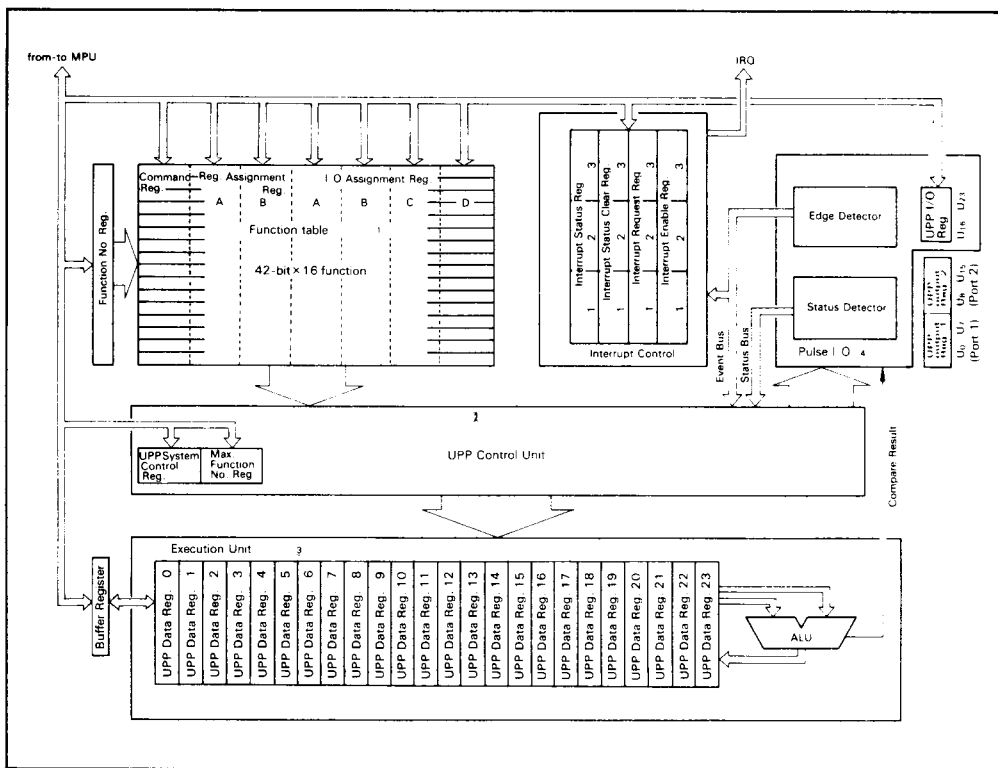

Figure 1. UPC Block Diagram
Figure 1 shows a block diagram of the UPC. The functions stored in the function table ① are sequentially read by the function number register (FNR), which has a counting function. The UPP control unit ② interprets and executes these functions by controlling the execution unit ③ (consisting of UPP data registers and an ALU) and pulse I/O ④. HD63140 has a RAM for use as a function table. RAM must be selected by the UPP